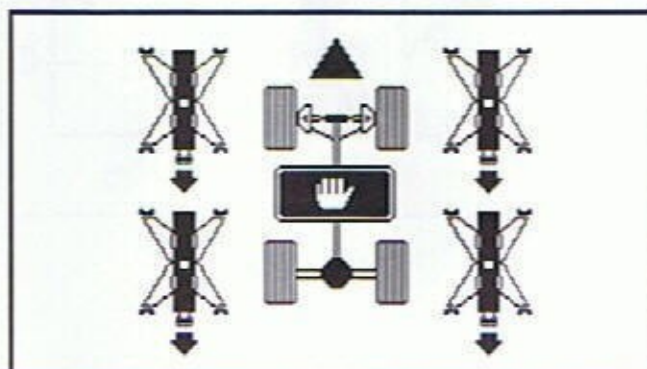

Figure 2-16
6. Press RUNOUT on the WHEEL UNIT. Wait while runout readings are taken. The screen shown in Figure 2-16 will appear in display. The hand symbol indicates that the operator should wait before entering the next command.